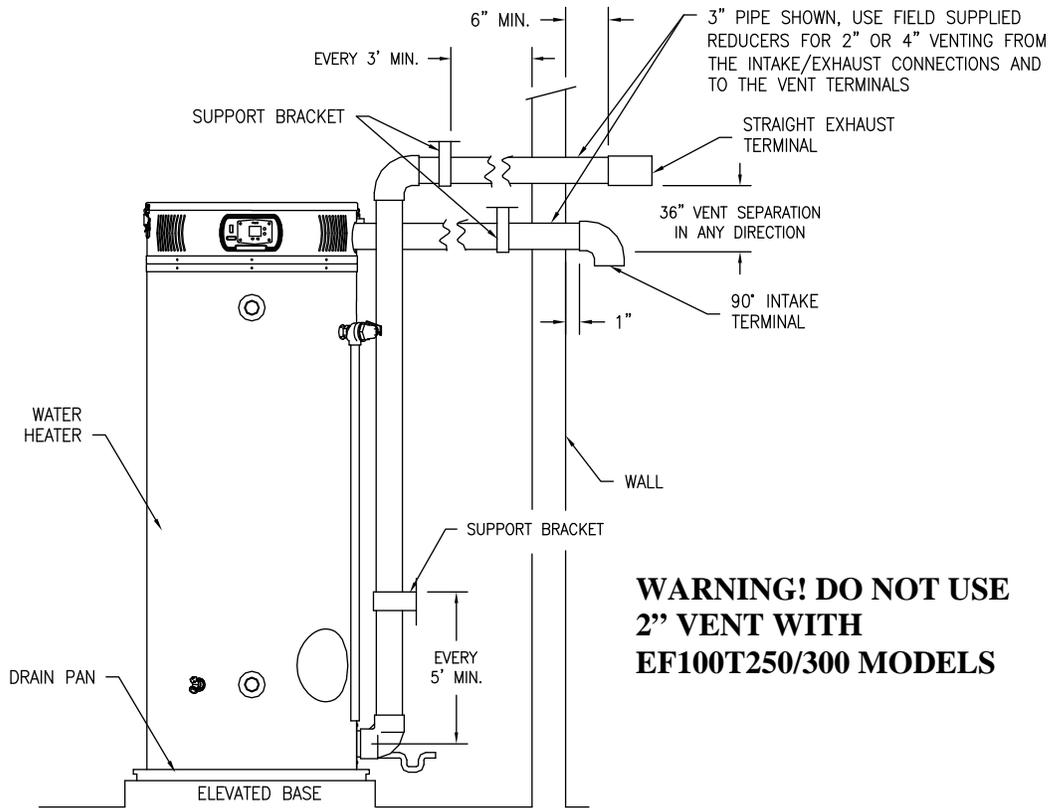

Figure 12. Typical Horizontal Direct Vent System
2. Use the proper cement to secure the exhaust vent and air intake terminals provided with the water heater to the pipes. The distance between the back edge of the exhaust vent terminal and the exterior wall (see Figure 12) must be 6 inches (*12.7 cm*) more for the exhaust vent terminal than the air intake terminal. Use the proper cement or sealant and assembly procedures to secure the vent connector joints between the terminal and the blower outlet. Provide support brackets for every 3 feet (*.91 m*) of horizontal vent beyond the intake terminal.